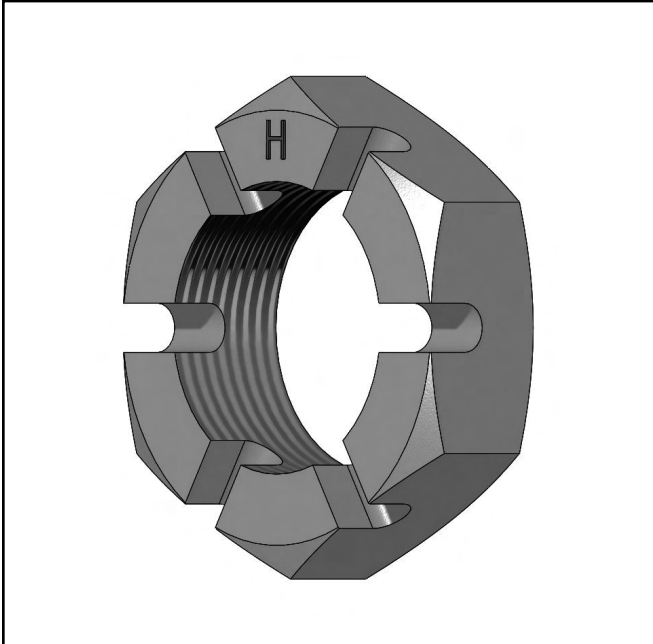
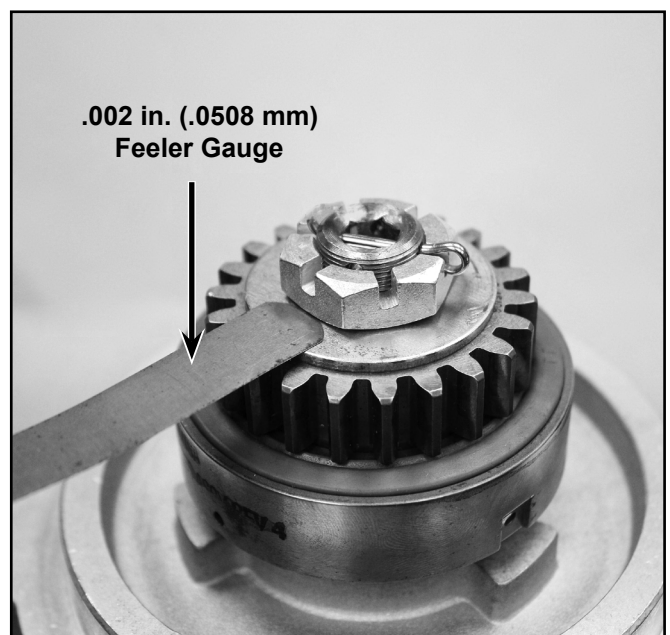

Figure 3 - Laser Etched "H"
Figure 6 - Gap Measurement
- (1) Remove the alternator from the engine in accordance with the latest revision of the aircraft and/or engine manufacturer's maintenance manual.
- (2) Inspect castellated hex-nut (1). If one the following indicators is present, the alternator is in compliance with this ASB. Refer to Figures 3 thru 5.
- (a) Hex-nut (1) is laser etched with the letter "H";
- (b) Hex-nut (1) is stamped with a center-punch;
- (c) Hex-nut (1) is roll-stamped with the letters "AD".
- (3) If any indicator stated above **is not** present, proceed to 3.B.(4). If one of the indicators stated above **is** present, continue to 3.B.(8).
- (4) Using a .002 in. (.0508 mm) feeler-gauge, measure the gap between the nut thrust face and the thrust washer at each of the six hex-nut flats. Refer to Figure 6.